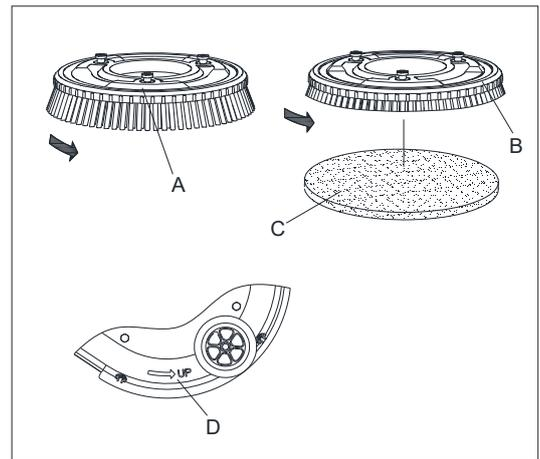

Figure 4
Install suitable brush (A, Figure4) or Pad (B and C, Figure4) according to the type of floor to be cleaned
2. Put the brush/pad holder on the floor under the brush hub and align their center, then rotary the brush/pad holder in the direction (D as Figure4) show to install it manually.
3. Press One-Start button (38 as Figure2) on control panel, lift the brushes (9 as Figure2) up from the floor, then press brush release button (40 as Figure2) to release brushes automatically. Rotary in the opposite direction (D as Figure4) can manually disassemble the brush/pad holder.